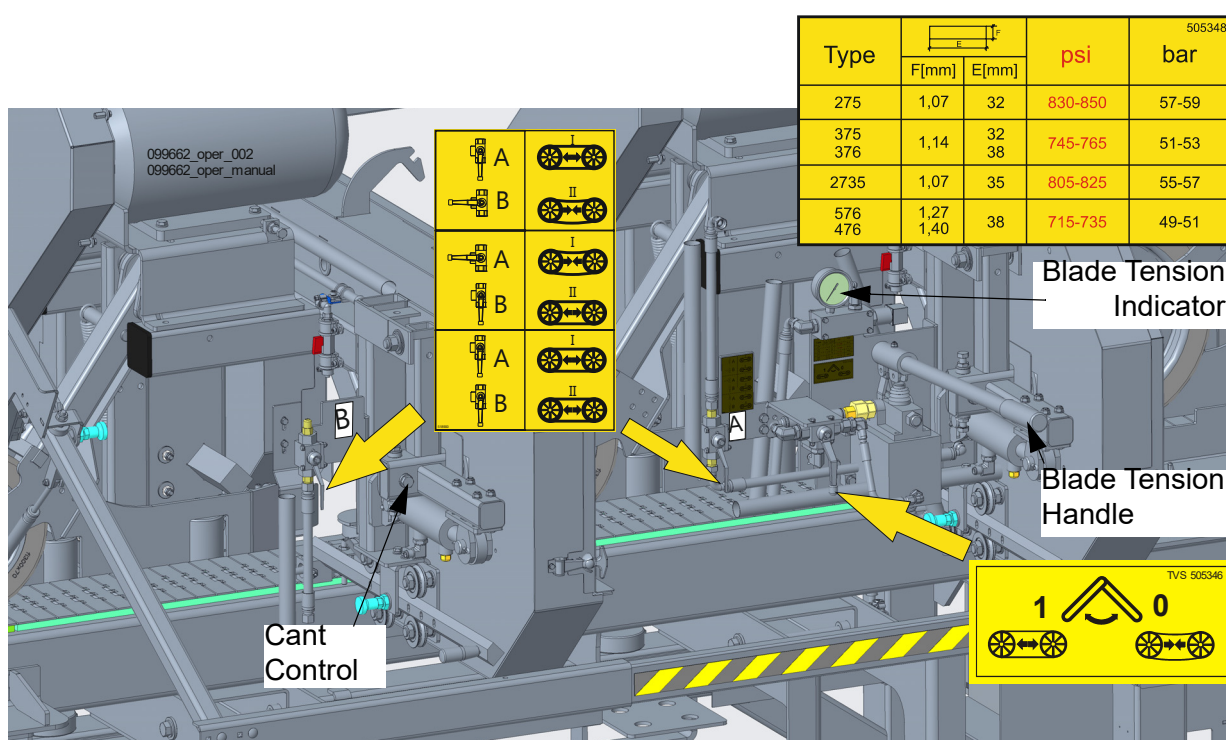

FIG. 2-12
See Figure 2-12. Place the provided handle in the blade tensioner socket and secure with a screw. Set the tensioner valve to the "1" position. Move the tensioner handle up and down to tension the blade. Depending on the installed blade type, tension the blade to the value shown on the decal located below the blade tension valve. The values "F" and "E" are: blade thickness and blade width. Check the blade tension occasionally when adjusting the cant control or while cutting and adjust if necessary. As the blade and belts heat up and stretch, the blade tension will change. Also, ambient temperature changes can cause tension to change. To release the blade tension, set the tensioner valve to the "0" position.
5. Use the cant adjustment bolt, shown in **Figure 2-12**, to adjust where the blade travels on the blade wheels.